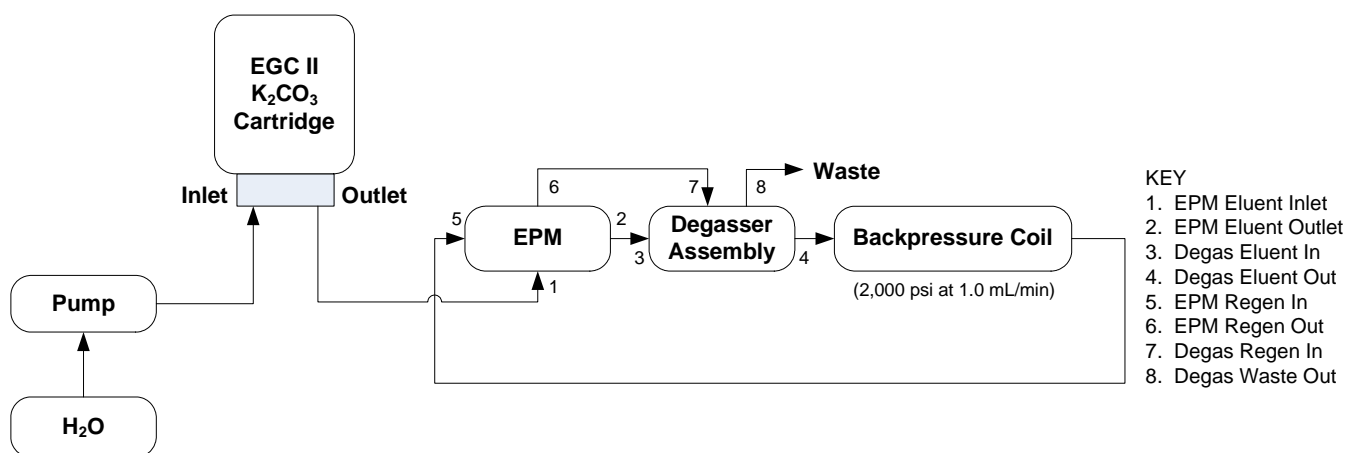

FIGURE 8
6. Complete the system plumbing as shown in Figure 8.